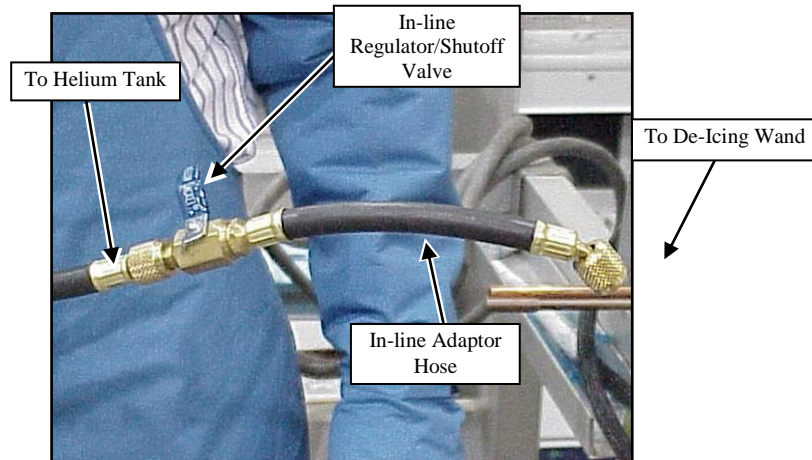

Figure 7-8 - Attaching inline regulator valve to de-icing wand.
2. Connect an inline regulator valve adapter between the de-icing wand and the helium tank hose. (Figure 7-8). Be sure to turn the valve OFF.